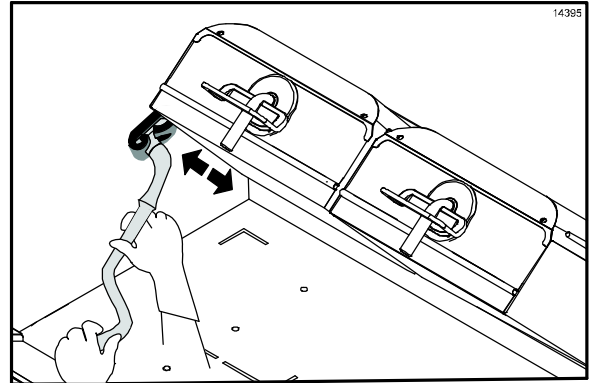

Figure 88
25. Scrub the outer edges of the right and left platens. (See Figure 88.)